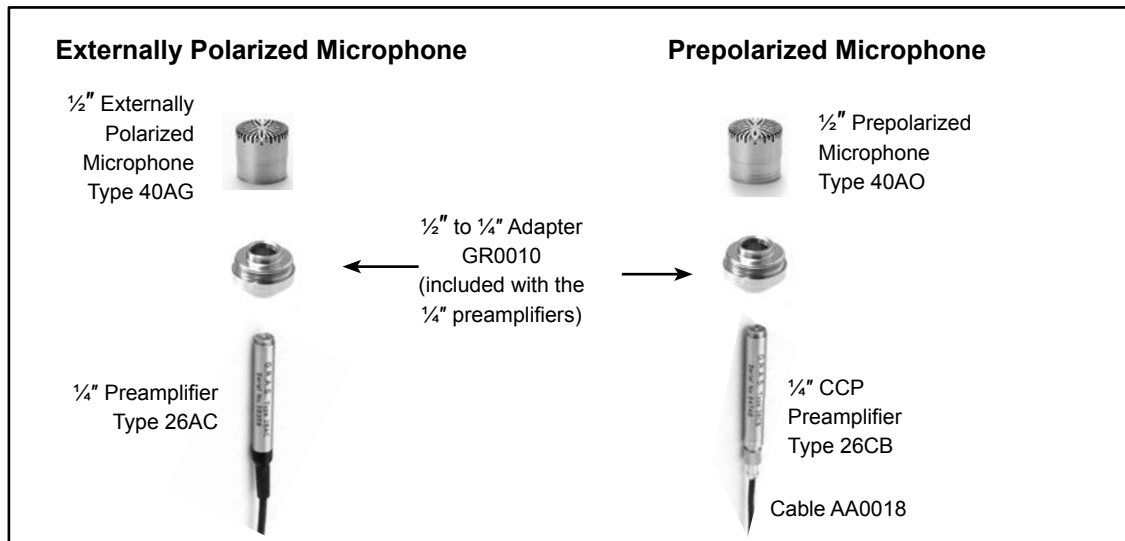

Fig. 5.2 Assembling the parts required for the calibration
1. Assemble the parts shown in Fig. 5.2